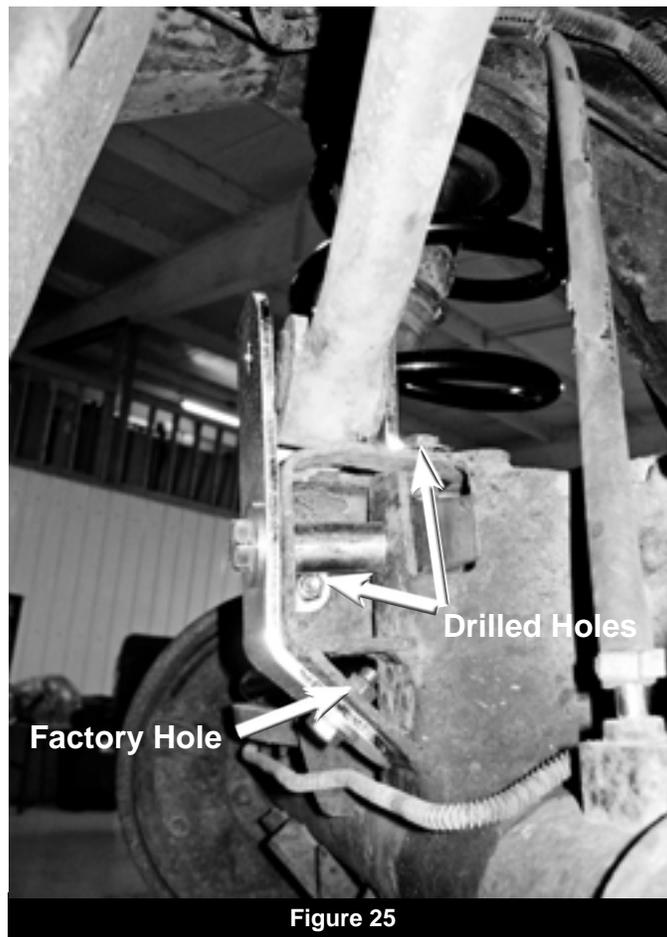

Figure 25
24. Position the provided track bar relocation bracket up to the OE axle mount. Insert the supplied 1.57" long sleeve in the OE axle mount. Attach the bracket to the axle through the original track bar mounting hole and new sleeve with a 12mm x 80mm bolt, 7/16" USS washer (BP 711) and OE nut tab (if the OE nut tab is damaged use a provided 12mm nut). Snug hardware to hold the bracket in place. (Fig 25)